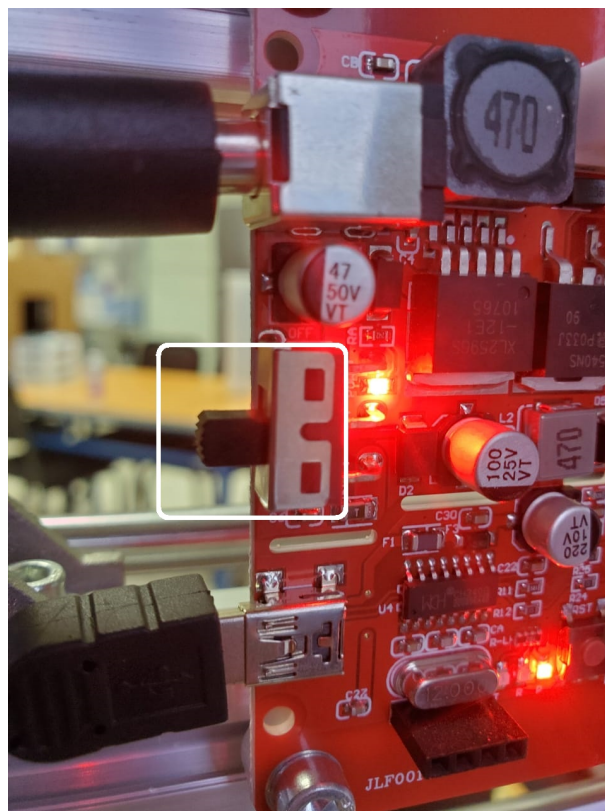

Figure 4: CNC machine switch
3. Once the machine is connected, it should be turned on by lowering the switch shown in Figure 4. A red LED light will indicate that the machine is powered on.